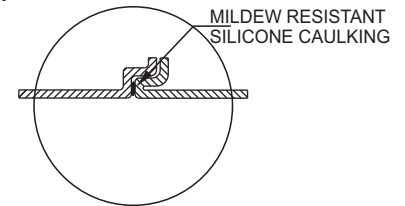

FIGURE 5
- Apply mildew resistant silicone caulking along the mating edge of the left hand wall panel with the right hand wall panel. See detail 7-2. And along the mating edge of the panel with the base see Fig.5.